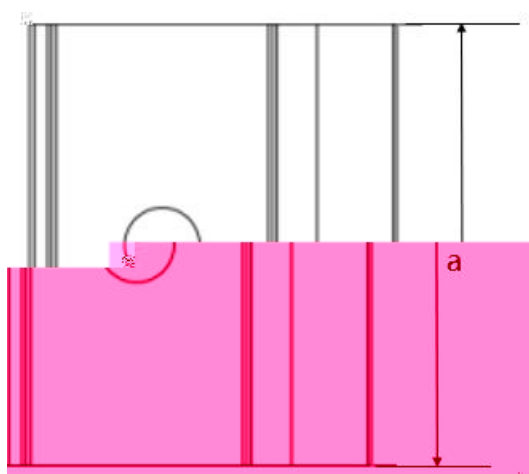

Figure7 Top view of side press block
• Figure 7 and 8 are the schematic diagram of the block, and Figure 9 and Figure 10 are the schematic diagram of the installation of the block. The size of the block is $a \approx 60$ mm, $b \approx 16$ mm, $c \approx 5$ mm, $d \approx 8$ mm, $e \approx 15$ mm, $e = 9$ mm, and the thickness of the block is ≈ 3 mm. When bolts and screws are rated 8.8, the recommended tightening torque is 17 to 23 N·m.